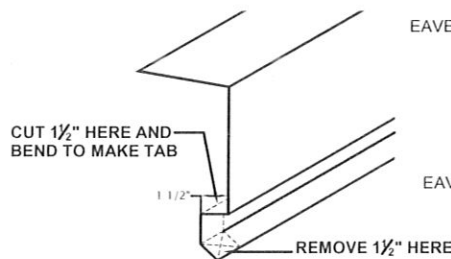

**FIGURE 16**
20.0 After all roof panels are installed and stitch screwed, the next step is to fill peak (void) with spray foam and install exterior ridge cap flashing. figure 16